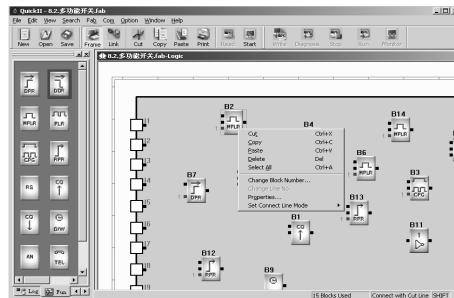

Fig 4.8
1. Select a function block and click by right key, a new menu will appear as shown in Fig. 4.8, and then click Property option; Or double-click it directly.